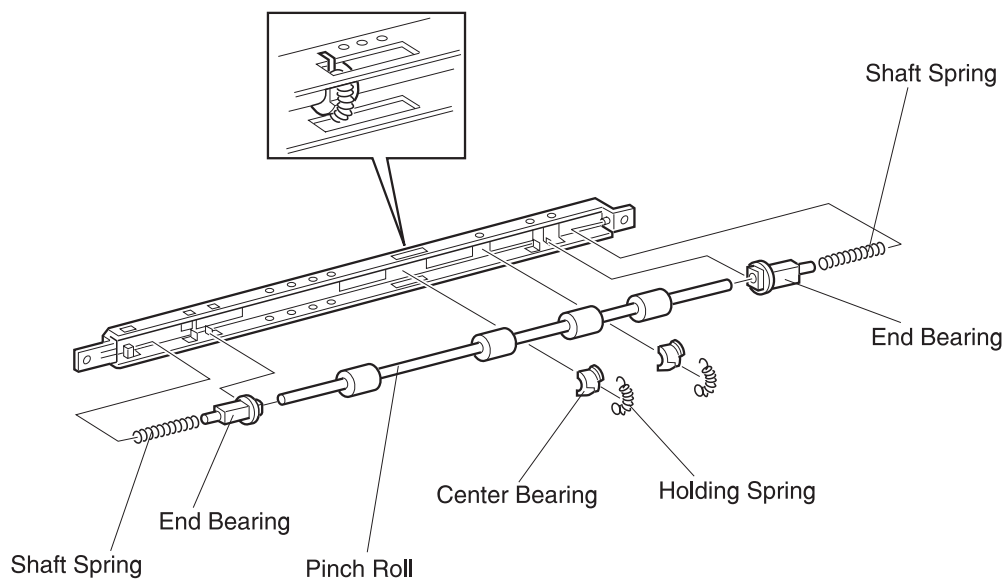

Figure 2
8. Reinstall the Pinch Roll Bracket onto the Left Middle Cover (Figure 2).